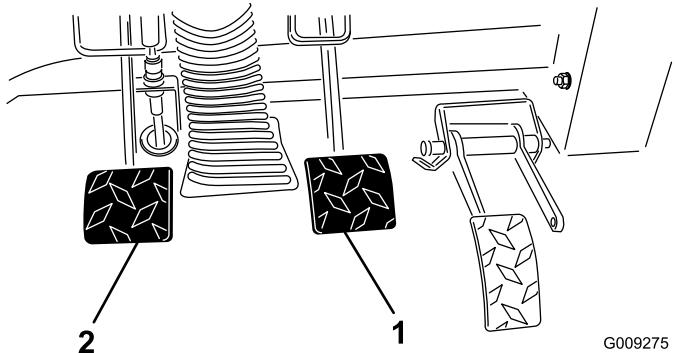

Figure 55
2. Lift up on the brake pedal (Figure 55) until it contacts the frame.